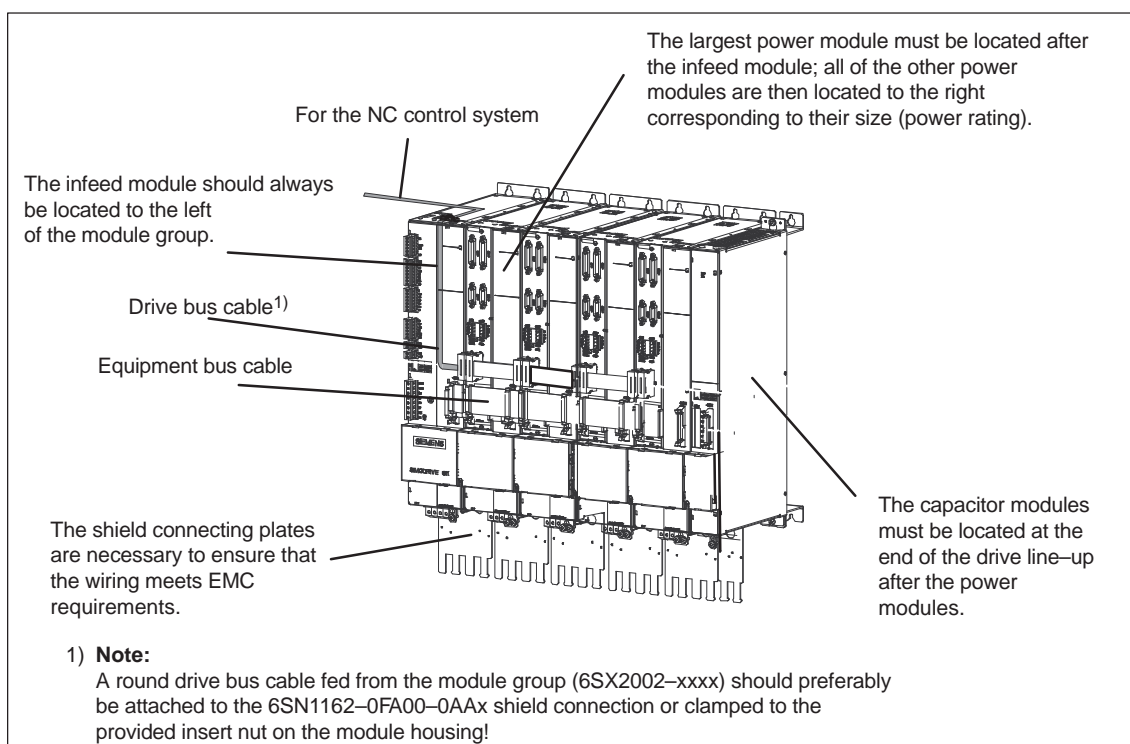

Fig. 2-1 Connection example
The I/R or UI module is always located to the left of the module group at the beginning. The power modules (PM) are located to the right next to the I/R or UI modules (refer to Fig. 2-1).
For drives with a digital setpoint interface, a drive bus cable is required for the control and communications interface SINUMERIK 840D powerline (refer to Fig. 2-1).
The electronics power supply between the individual modules is established using the equipment bus cable (refer to Fig. 2-1). The equipment bus cable is included in the scope of supply of the power module.